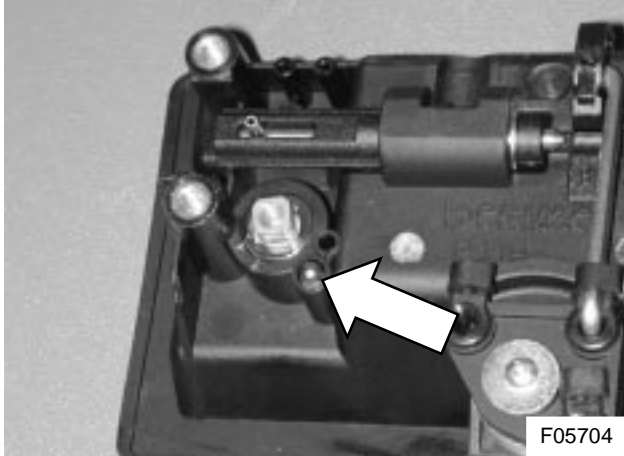

Figure 3: Location of ball and spring
- 5) Remove the ball and spring (see Figure 3).